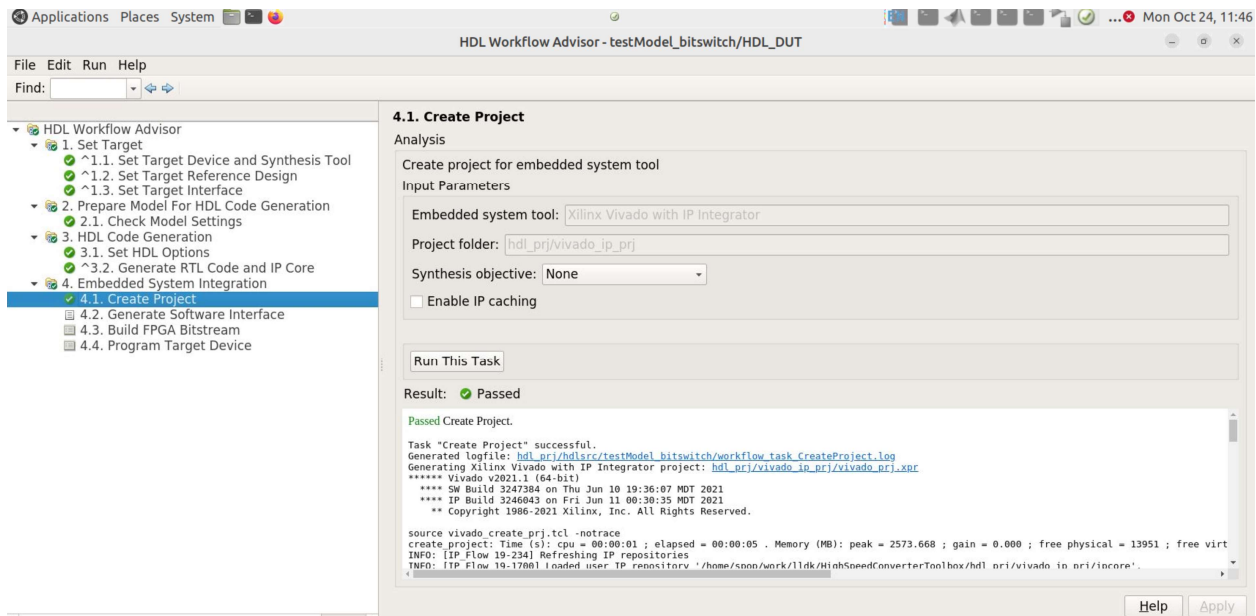

Figure 16. Create Project.
4.1 Run the task (this will create the Vivado block design in the hdl_prj/vivado_ip_prj folder, or the project folder name that was chosen in 1.1), as shown in Figure 16.